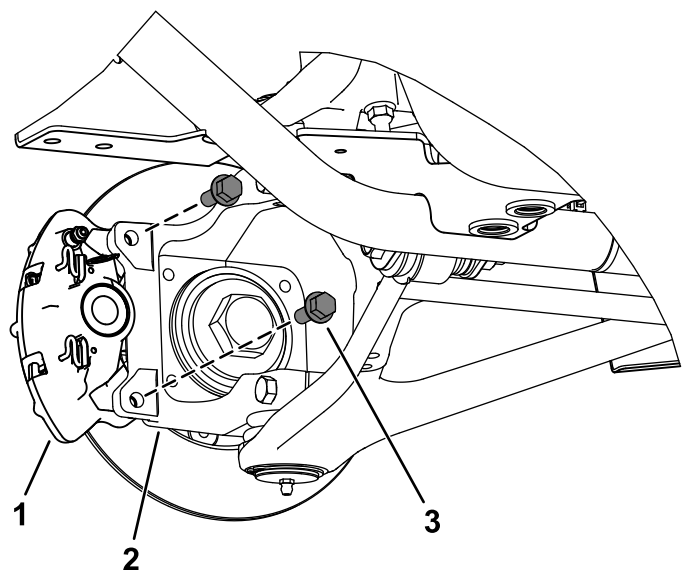

Figure 4
4. Remove the flange-head bolts (3/8 x 1 inch) that secure the brake-caliper assembly to the steering knuckle (front of the machine) and axle (rear of the machine), and remove the brake-caliper assembly (Figure 4).